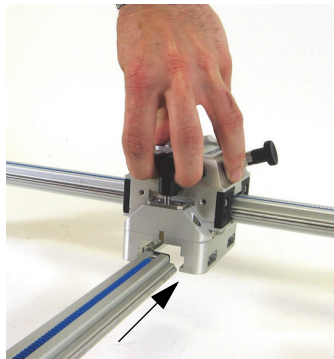

Figure 2-1 Inserting the Y-axis into the X-axis module
1. Pull up on the Y-axis quick release device (see Figure 2-1 on page 27).